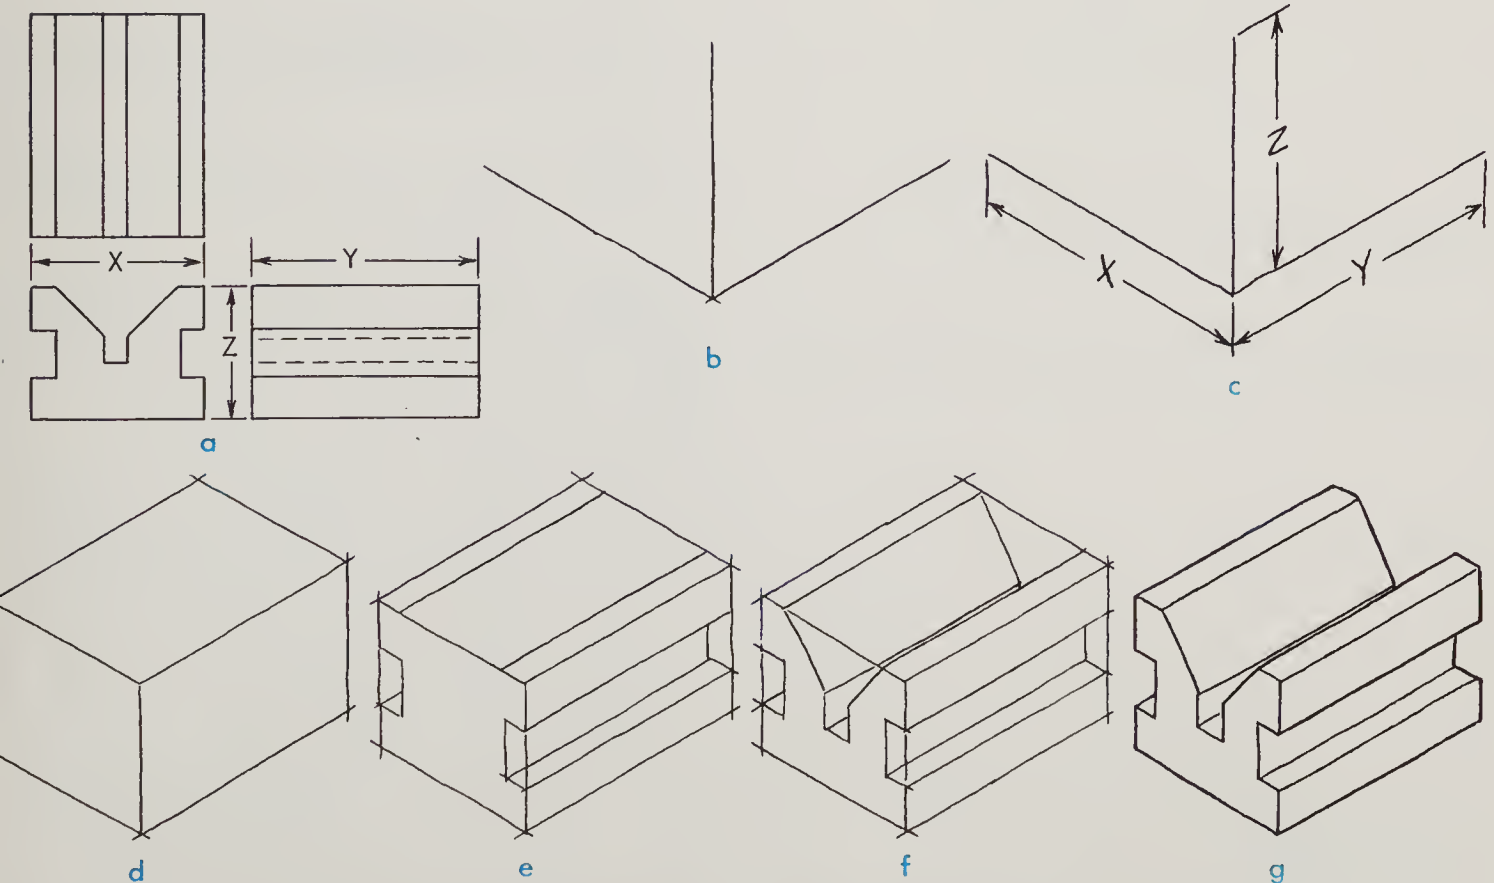

Fig. 13-3. Steps in constructing an isometric sketch.
1. Given 3-views of a V-block, Fig. 13-3(a).
3. Start the sketch by laying out the axes for the lower corner, Fig. 13-3(b).
4. Make overall measurements in their true length on the isometric axes or on lines parallel to the axes, Fig. 13-3(c).
5. Construct a "box" to enclose the object, Fig. 13-3(d).
6. Sketch the isometric lines of the object, Fig. 13-3(e).
7. Sketch the nonisometric lines (slant lines) by first locating the endpoints of these lines and then sketching the line between, Fig. 13-3(f).
8. Darken all visible lines and erase the construction lines to complete the isometric sketch, Fig. 13-3(g).
Let's look at the steps in constructing an isometric sketch in Fig. 13-3.